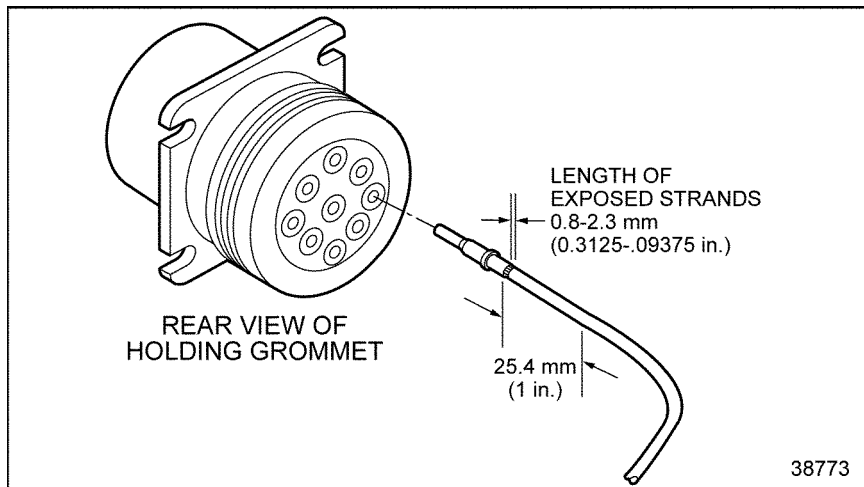
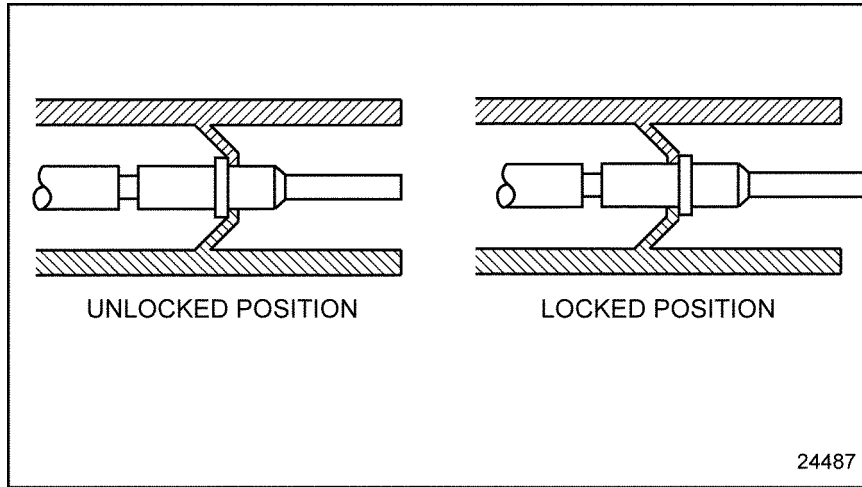

Figure 17-10 Pushing Contact Into Grommet
Figure 17-11 Locking Terminal Into Connector
5. Grasp the contact approximately one inch behind the contact crimp barrel. Hold the connector with the rear grommet facing you. See Figure 17-10.
6. Push the contact into the grommet until a positive stop is felt. See Figure 17-10. A slight tug will confirm that it is properly locked into place. See Figure 17-11.